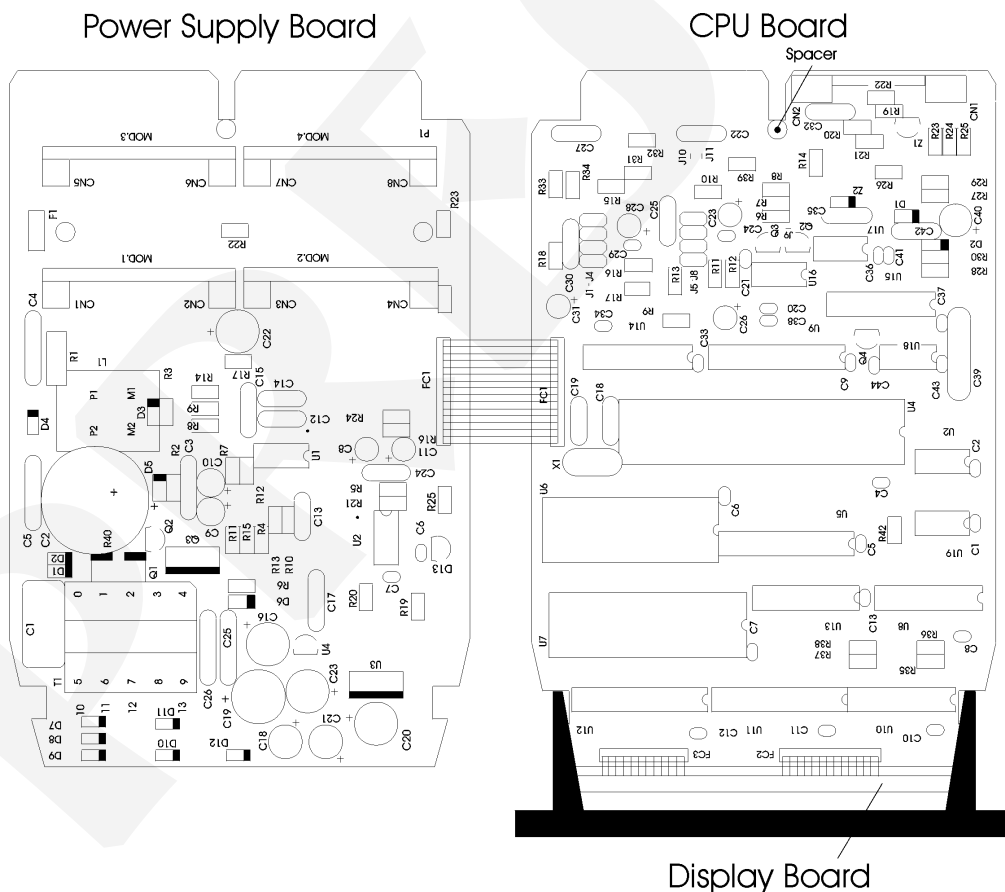

Fig. 19 - Indicator hardware
- iv) Move the Power Supply Board to the right and open the boards according to Figure 19.